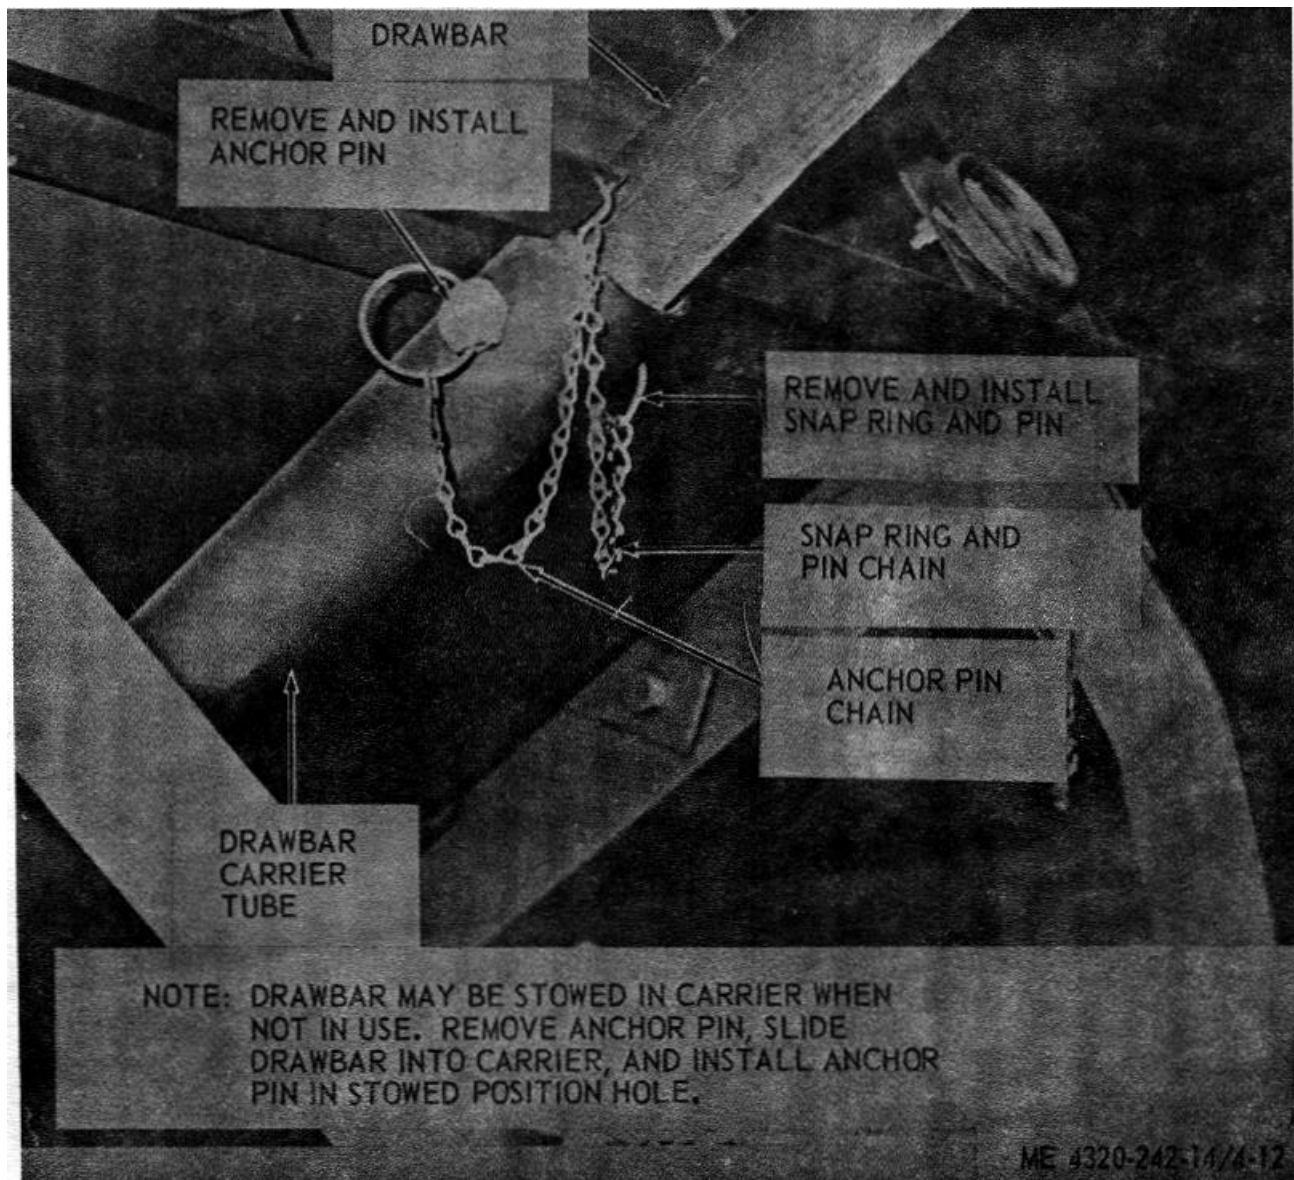

Figure 4-12. Drawbar assembly, removal and installation.
- a. *Removal.* Refer to figure 4-12 and remove the drawbar assembly.
- c. *Installation.* Refer to figure 4-12 and install the drawbar assembly.